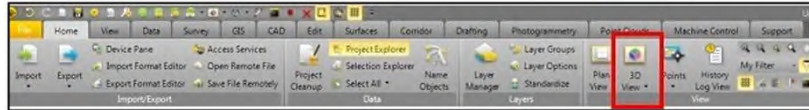

Figure 11: Trimble Business Center ribbon highlighting the 3D View tool.
- b. Select "3D View" under the "Home" tab (Figure 11). This will open a new window within the project where the user can scroll, pan, and rotate data.